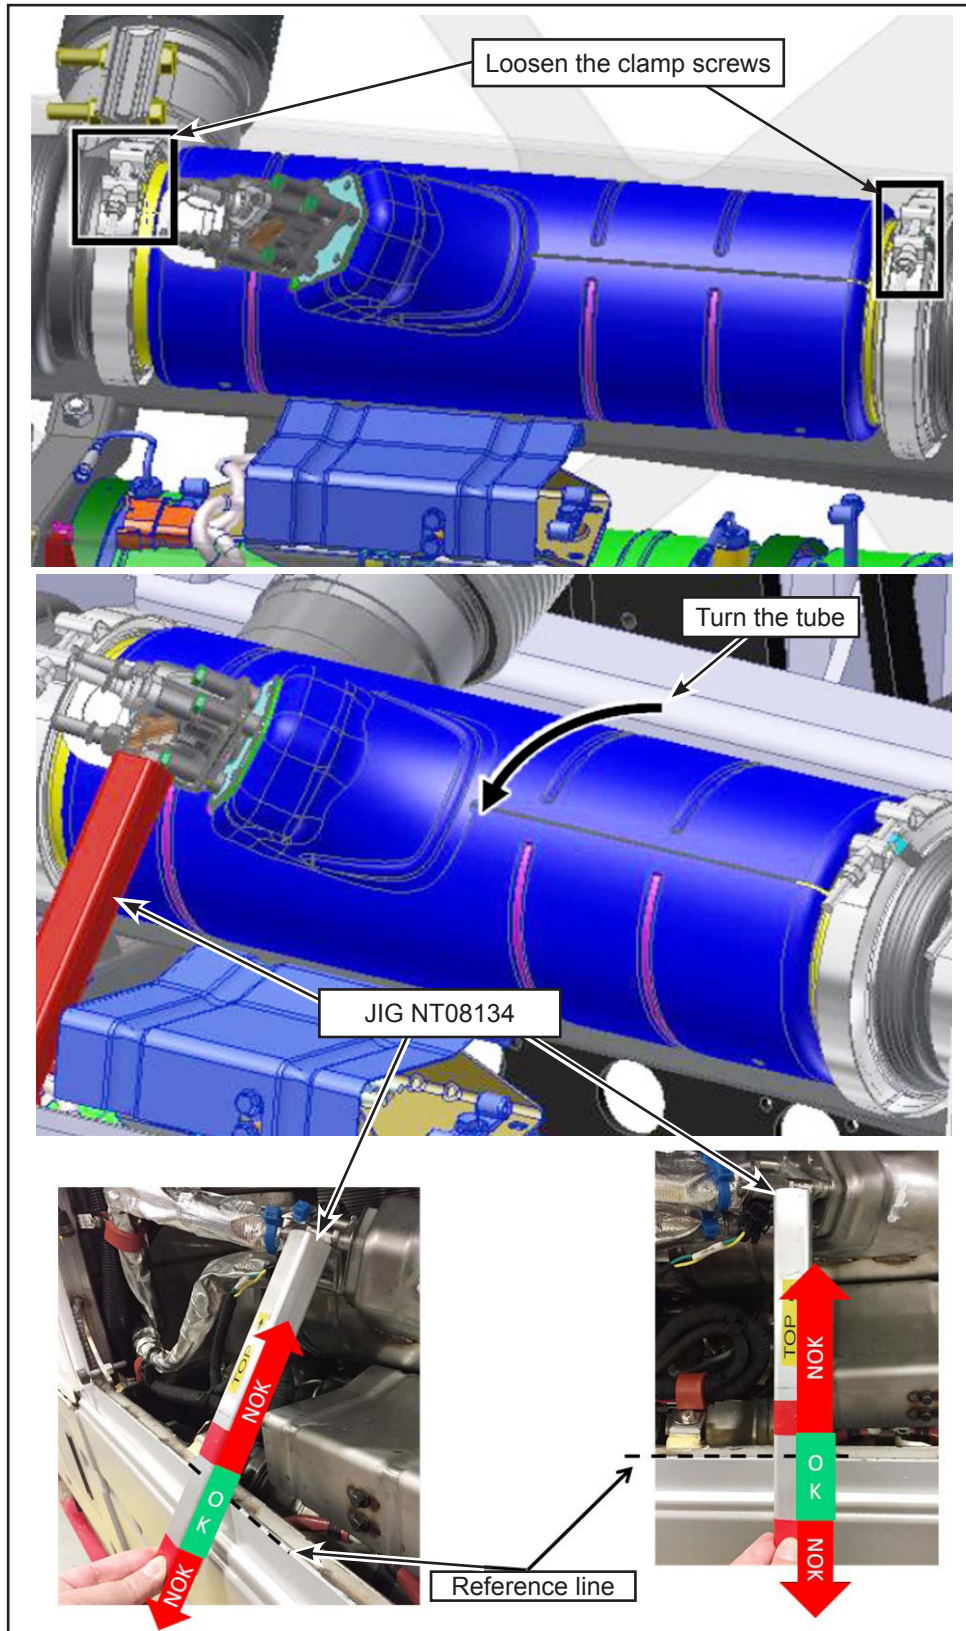

Figure 6 - Adjust the angle of the dosage module
- 1.7. If the dosage module angle requires adjustment, loose the clamp screws and turn the decomposition tube to obtain an angle of approximately 54° using the jig NT08134 (see Figure 6).